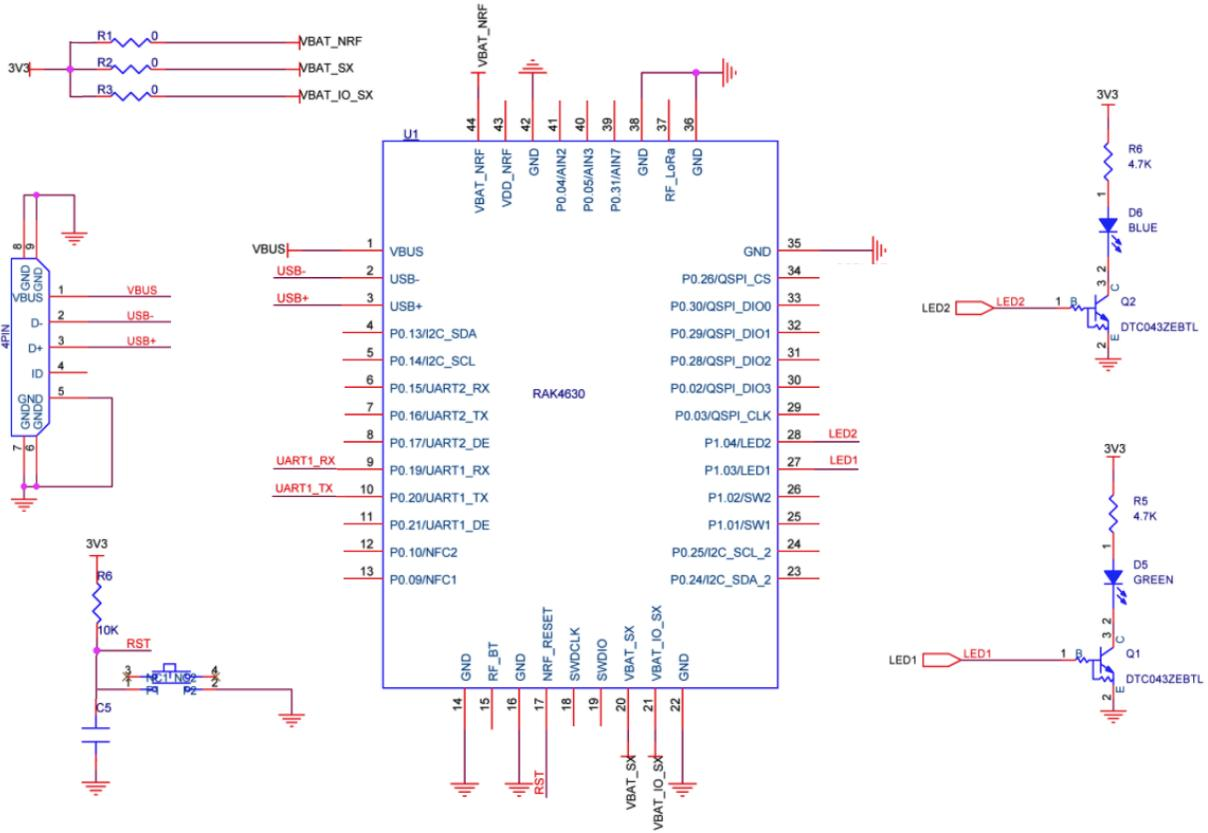

Figure 11: RAK4630 with two LEDs
1. After completing the steps on adding your RAK4630 to the Arduino IDE, you can now try to run a simple program to test your setup. You need to add two LEDs to the bare minimum schematic of the RAK4630 module, as shown in **Figure 11**.